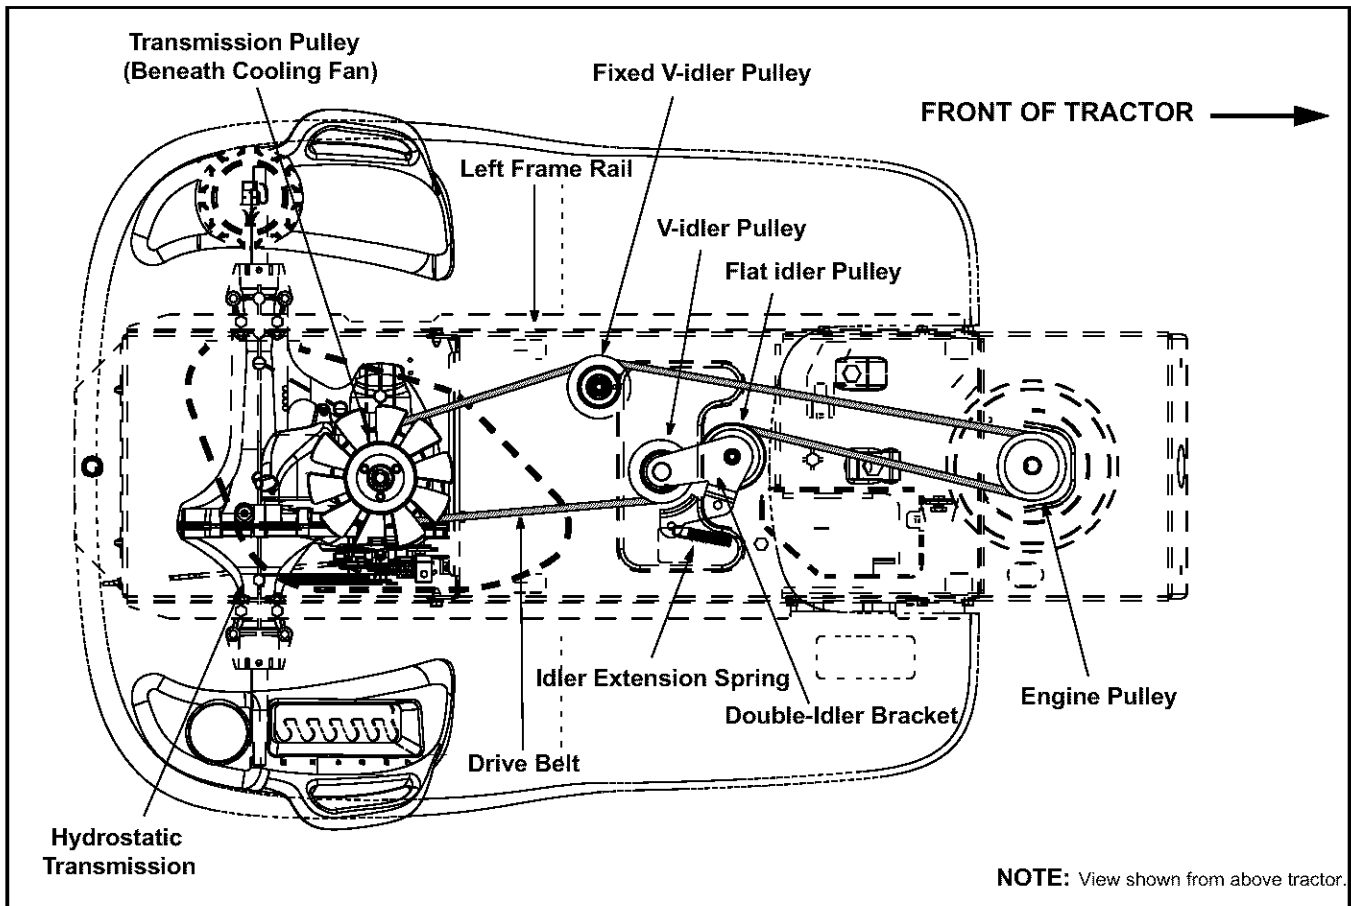

Figure 20
- Locate the fixed v-idler pulley found on the left underside of the frame. See Figure 20.
- Grasp the belt on both sides of the pulley and gently move it toward the left frame rail allowing it to unseat itself from the fixed v-idler. See Figure 20.
- Remove the drive belt by feeding it from front to rear, toward the hydrostatic transmission. See Figure 20.
- Reroute the new belt around the pulleys and belt keepers, if present, EXACTLY as the old one was routed. Refer to Figure 20.